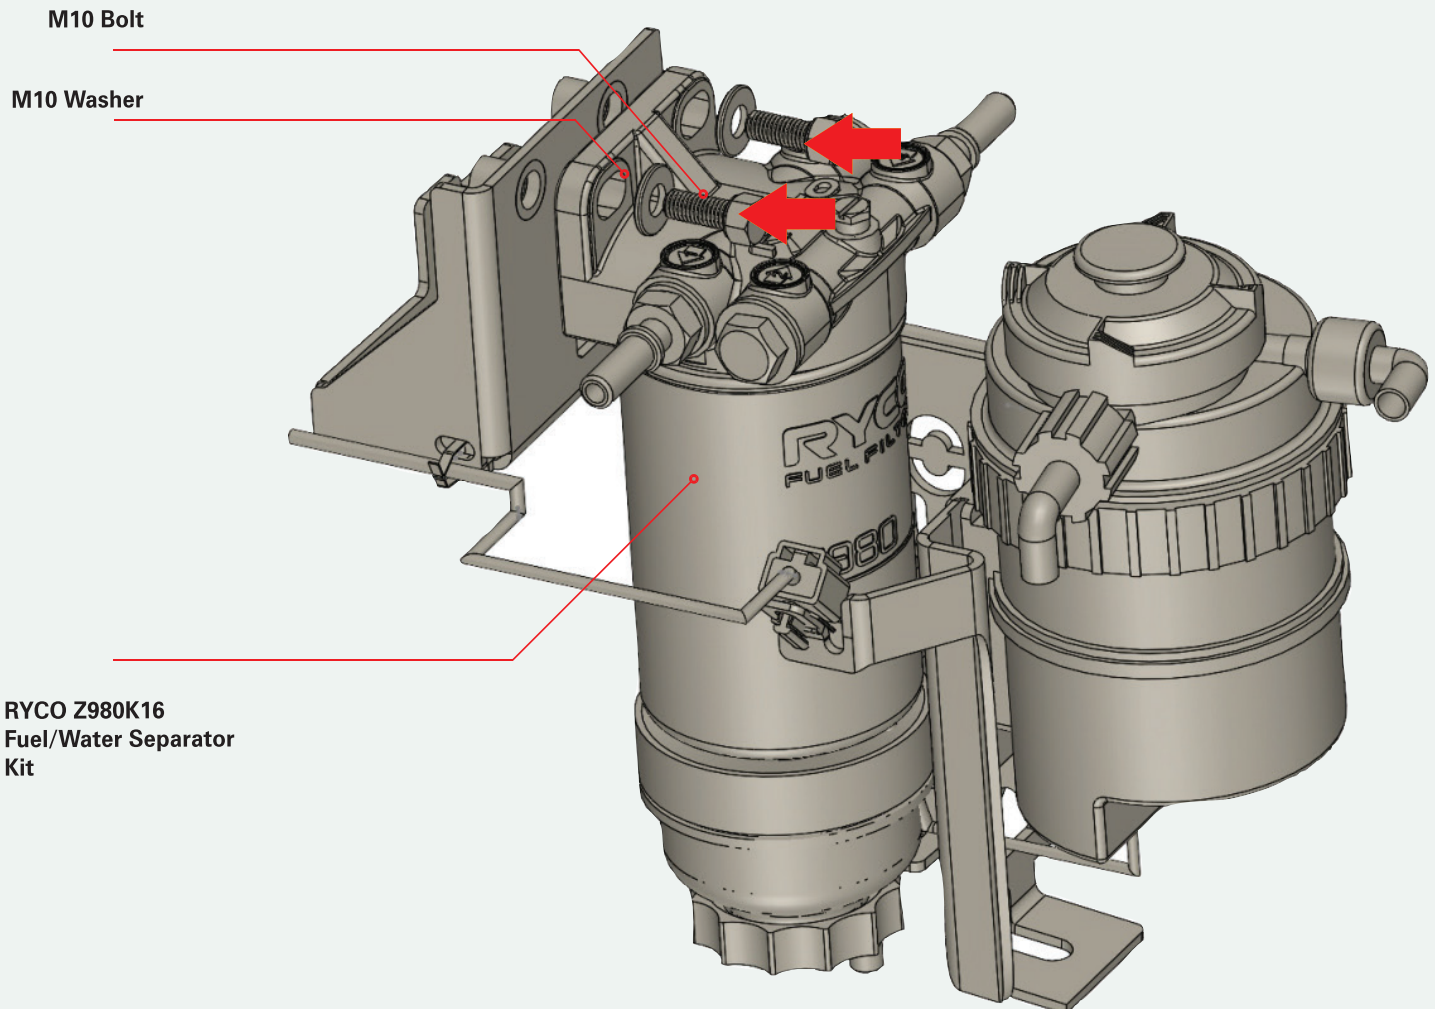

FIGURE 8
- 5 Using the M10 Bolts and Washers supplied in the Ryco Z980K16 fuel water separator kit, attach the Z980K16 to the FB9810FC bracket as shown in FIG. 8.